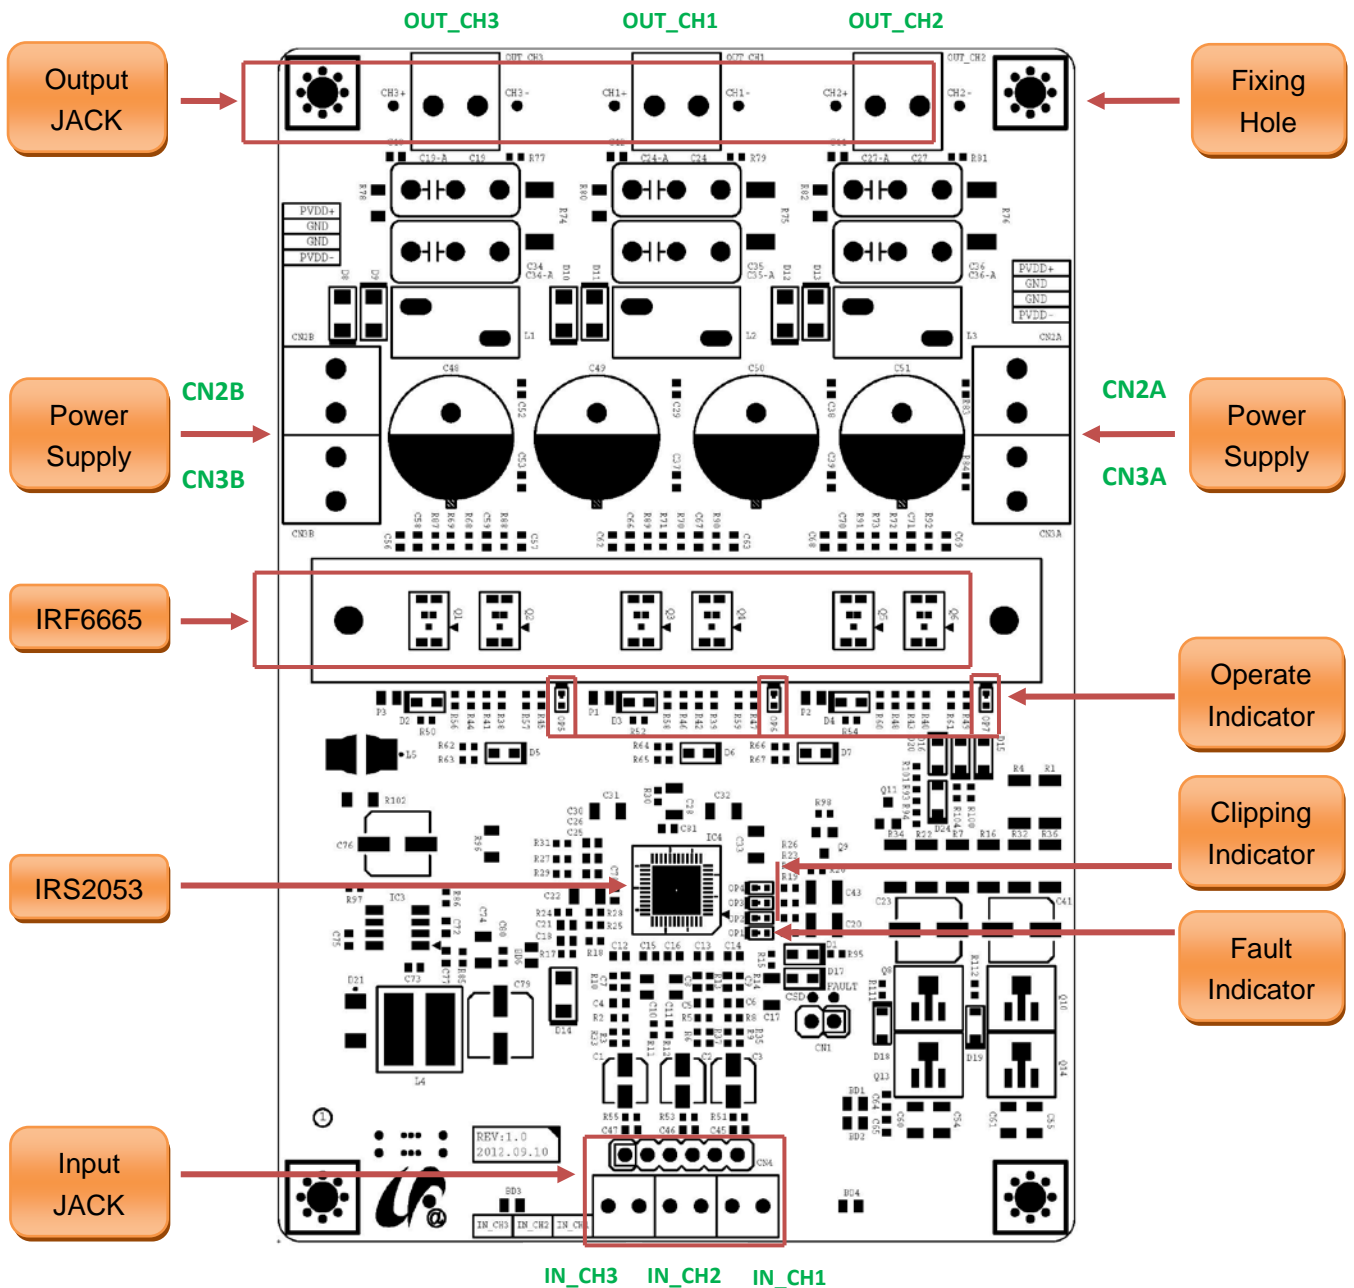

Figure 1
1. Connect your speaker to output connectors (OUT_CH1, OUT_CH2, OUT_CH3 as show on Figure 1)
2. Connect the Audio Signal to input connectors (IN_CH1, IN_CH2, IN_CH3 as show on Figure 1)
4. Connect the dual power supply to the power connectors (CN2A,CN3A as show on Figure 1)